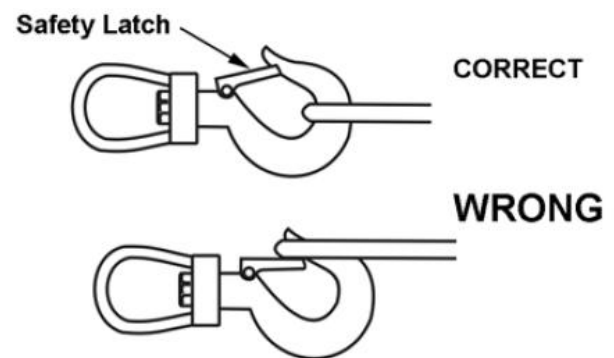

Figure 5
1. Place load cable(s) in the middle of the hook and *inside the safety latch*. DO NOT attach any cables outside the safety latch on either the puller hook or the wire rope hook. See Figure 5.